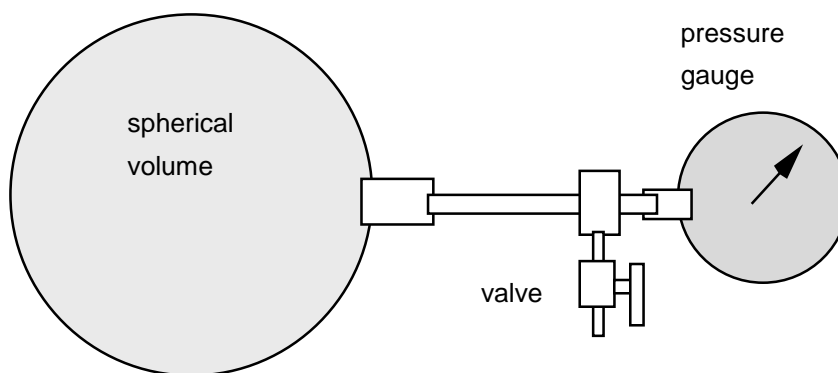

Figure VII.2 Charles' Law apparatus. The valve is shown in the open position. (Note: Pressure gauge reads in Torr and 1 Torr = 1mm Hg.)
2. Carefully examine the Charles' Law apparatus depicted in figure VII.2, but do not allow your hands to warm the copper sphere. Open the valve (valve lever parallel to direction of air flow through the valve) so that the pressure inside the apparatus can equalize with the external pressure. **You must be gentle with this apparatus because (a) the gauge may have a glass front, (b) the copper sphere dents easily, and (c) calibration of the instrument can be lost. If you lack elbow room on the lab table and might accidentally damage the instrument, ask your TA for a safe place to store it while not it use.**